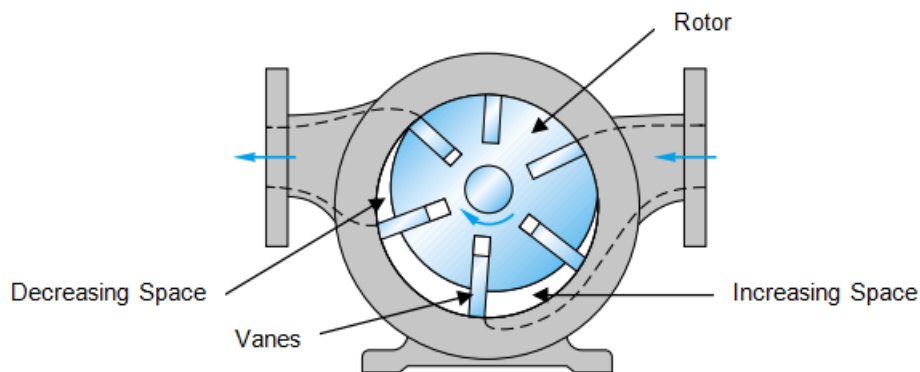

FIG 9.
- ✓ This compressor consists of a rotor with radial slots mounted off-centre in a round casing. (Fig 9)